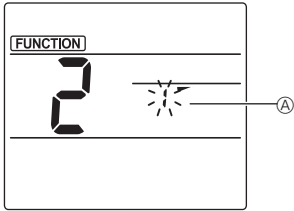

Fig. 3-2
- Selecting the vane number (Fig. 3-2)